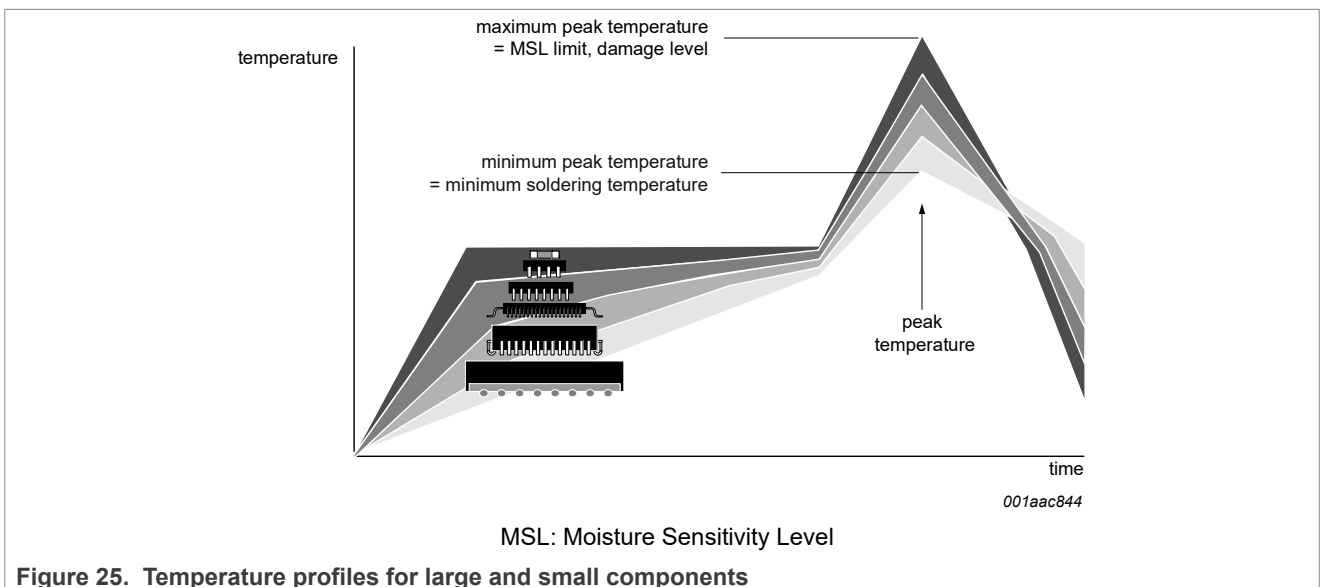

Figure 25. Temperature profiles for large and small components
- Lead-free versus SnPb soldering; note that a lead-free reflow process usually leads to higher minimum peak temperatures (see Figure 25) than a SnPb process, thus reducing the process window
Studies have shown that small packages reach higher temperatures during reflow soldering, see Figure 25.